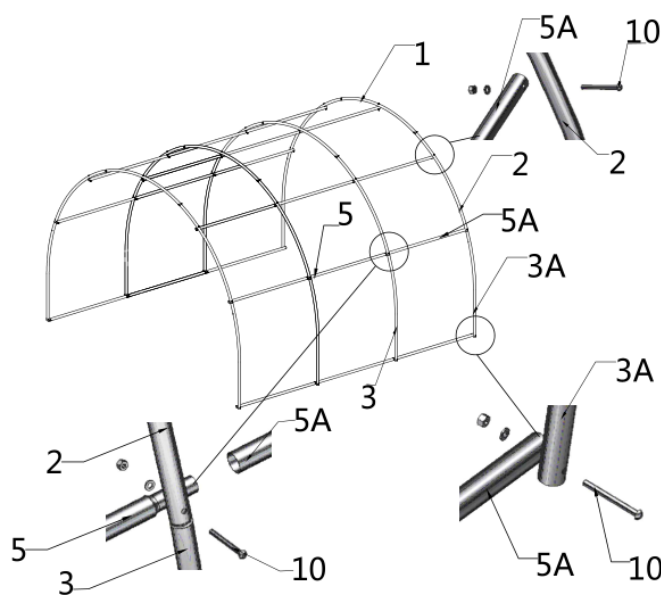

Figure 6
- Finally, the rear truss (the 4th span truss) is erected, and then the Roof purlin (#5A) is connected with the truss with bolts (#10). (refer to figure 6)
- (7) Roof purlin (#5A)